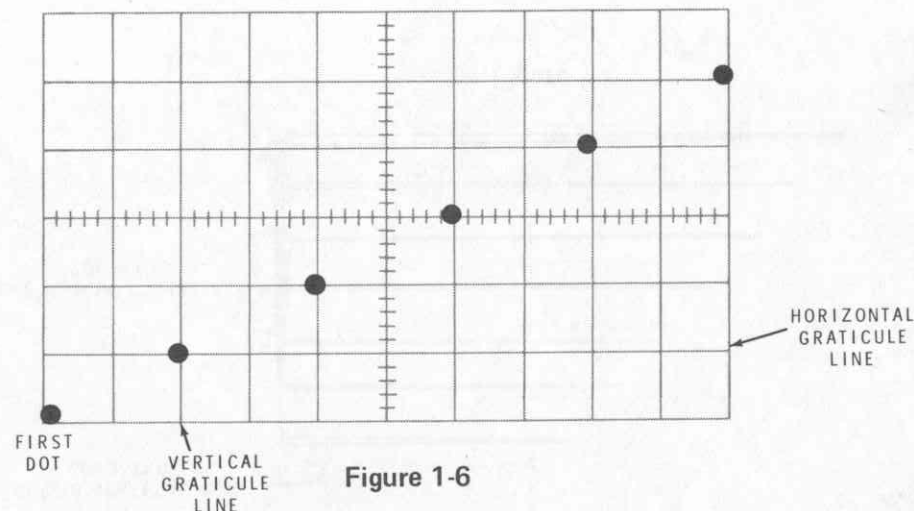

Figure 1-6
- ( ) Turn on the Curve Tracer (until the SWEEP VOLTAGE control just clicks) and slowly turn the STEPS/FAMILY control clockwise until four to six dots appear in a diagonal row and fill the oscilloscope screen, as shown. See Figure 1-6. NOTE: Adjust the HORIZONTAL and VERTICAL SENSITIVITY controls on the oscilloscope if the dots are too widely spaced.